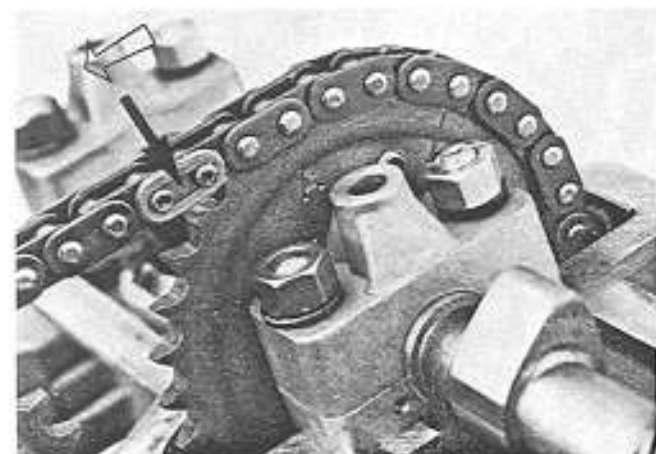

Fig. 28
- Join the two ends of the chain using a **new** connecting link and a **new** spring clip. Take care to locate the spring clip the right way round (see figure 28).